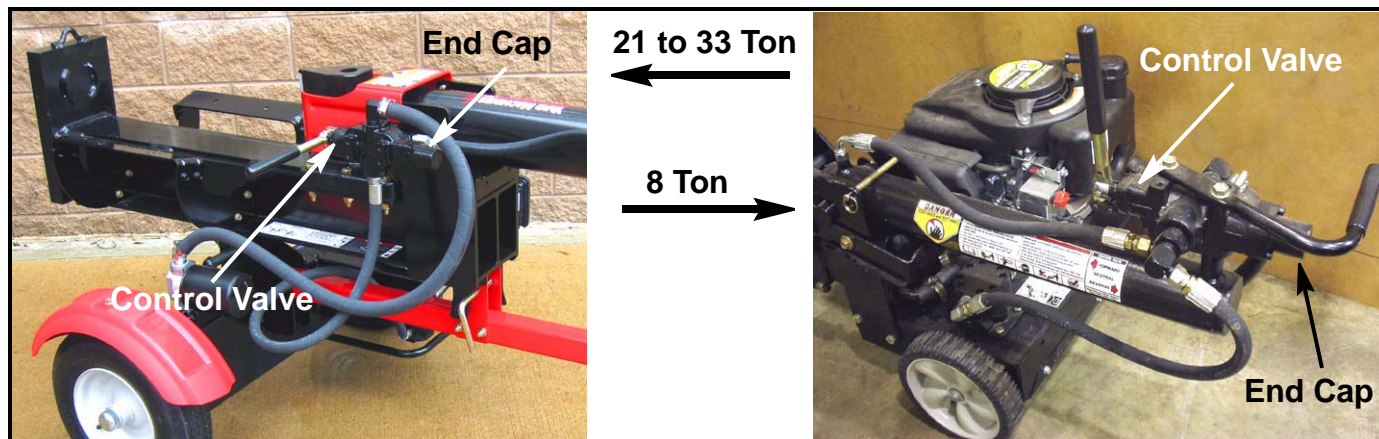

FIGURE 2
5. Locate the control valve at the operator's position of the log splitter and look at the control valve end cap (opposite end from the control handle). See Figure 2.